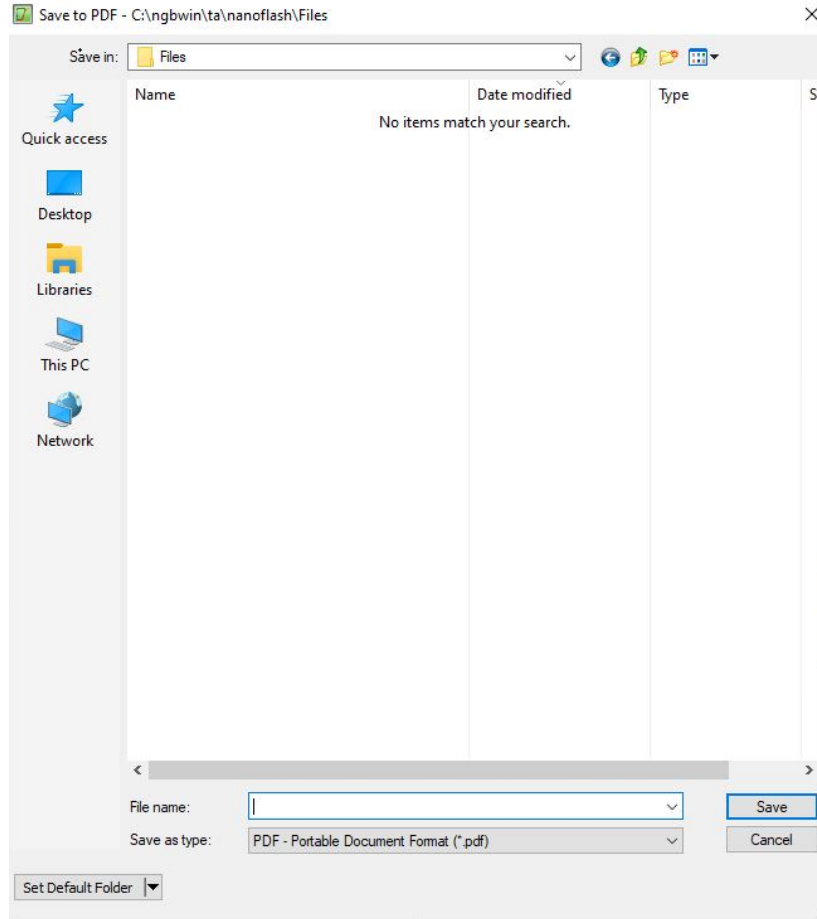

Figure 46. Save the file as a .pdf file.
2. Save the file as a pdf (as in Figure 46).